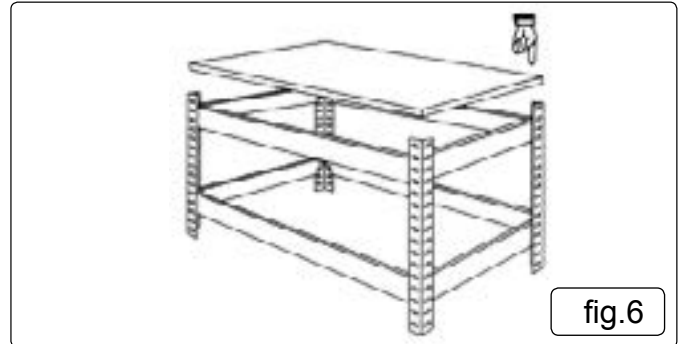

fig.6
- 5.7. See fig.6. Move the frame into position in the chosen area. Place the 5 MDF shelves onto the shelf supports.